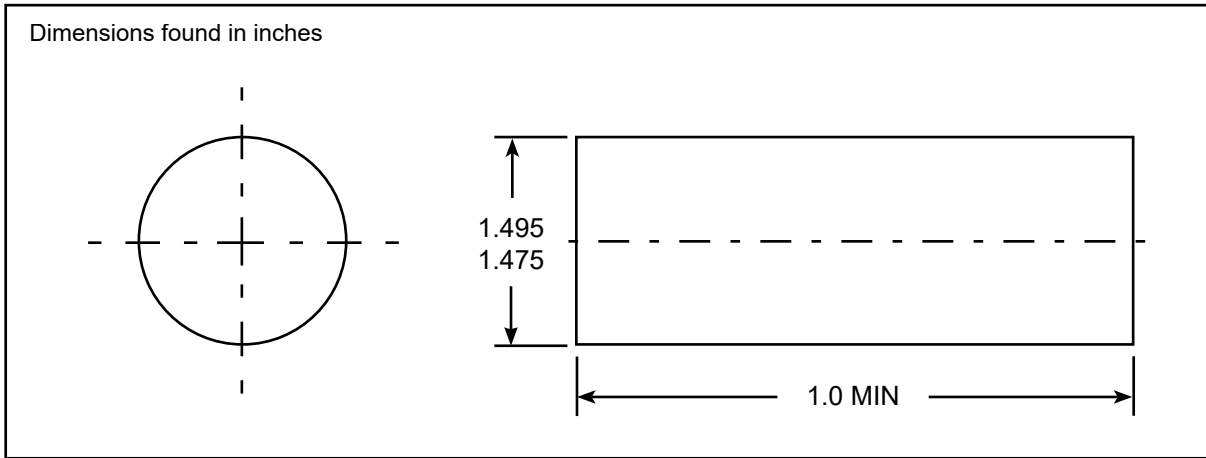

Figure 2 - Oil Seal Push Tool
- (2) If a loose condition or oil leak **is** found
- (c) Remove and discard three mounting flange bolts (4) and separate the mounting flange (3) from the alternator drive end housing (1).
- (d) Inspect the mounting flange (3) for damage, replace as required.
- (e) Using an arbor press and adequate push tool, push the oil seal (5) from the mounting flange (3) and discard the oil seal. Manufacture push tool per dimensions in **Figure 2**.